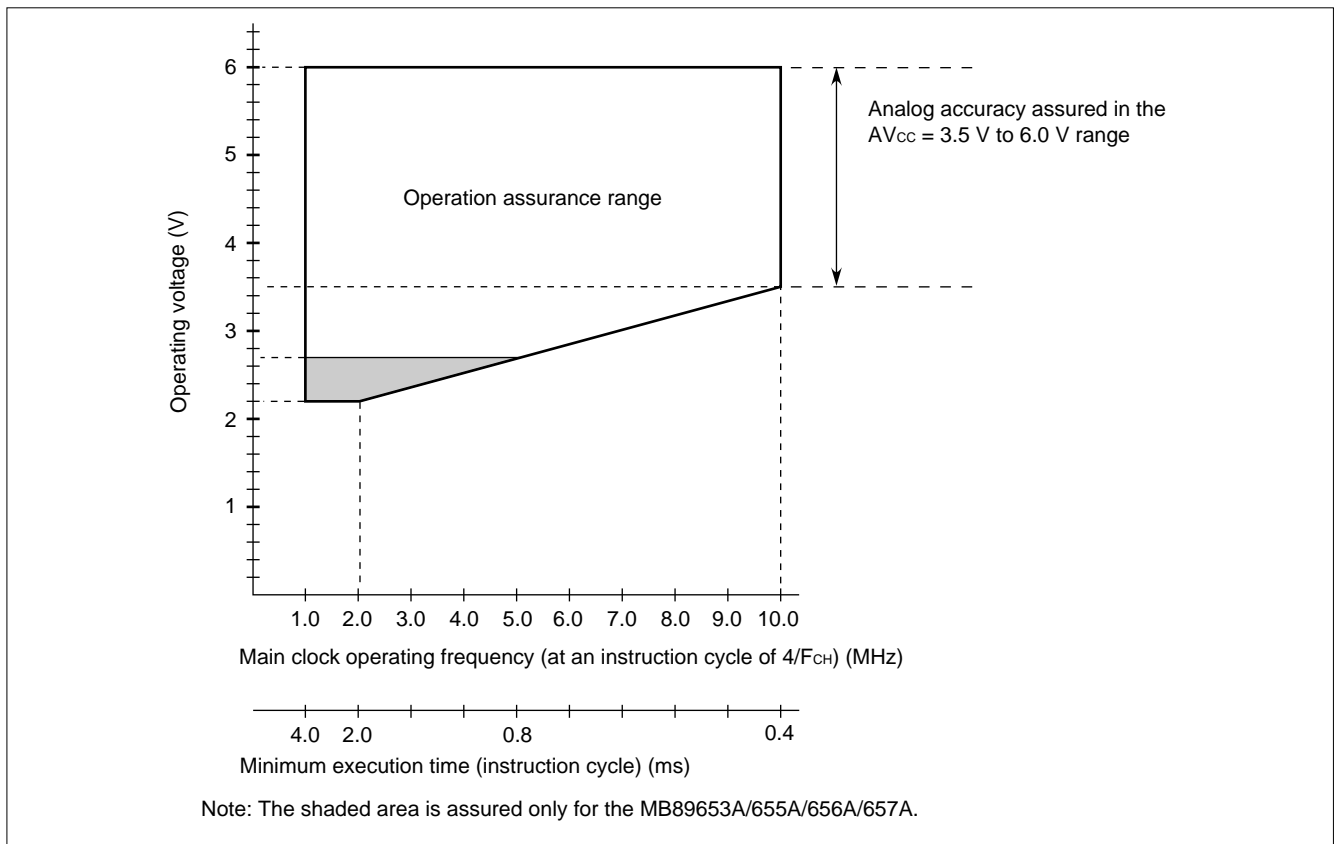

Figure 1 Operating Voltage vs. Main Clock Operating Frequency
* : These values vary with the operating frequency, instruction cycle, and analog assurance range. See Figure 1 and "5. A/D Converter Electrical Characteristics."
Figure 1 indicates the operating frequency of the external oscillator at an instruction cycle of 4/F_{CH}.